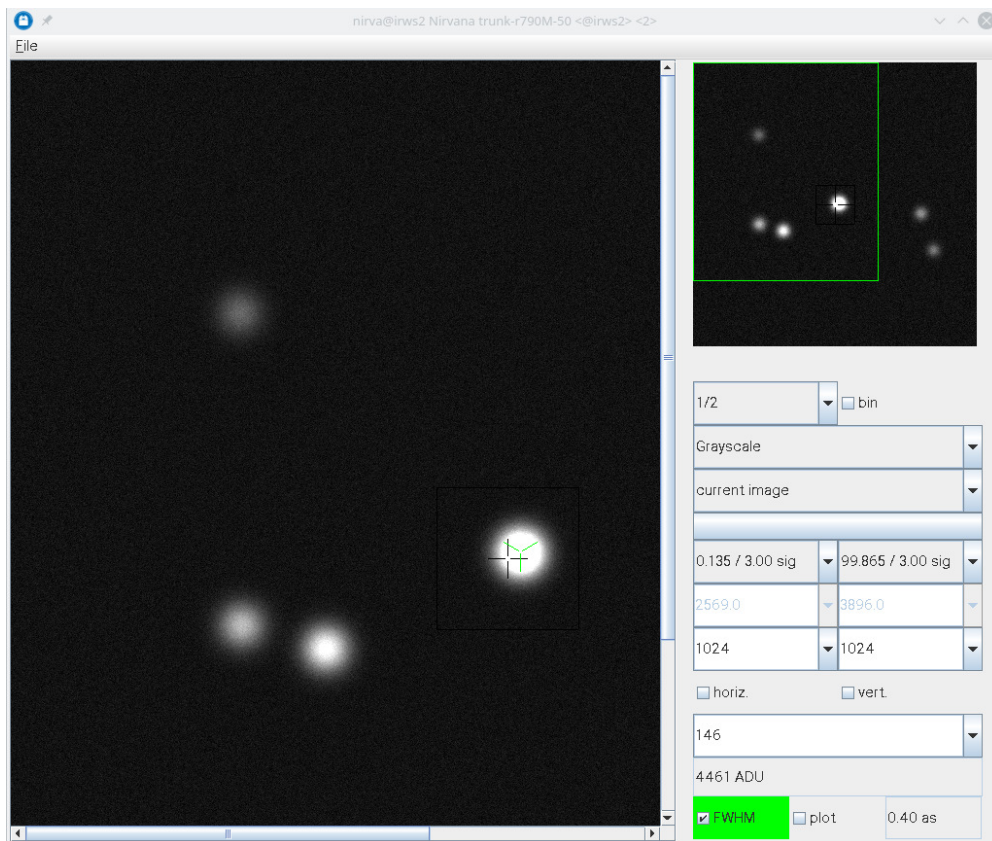

Figure 21: Current Exposure Display. Right after GEIRS startup this shows the white-on-blue logo of the MPIA.
**4.3.4.1 Introduction** The display tool, Figure 21 works similar to `ds9` or `fv` tools with some display options and similar statistics. The GEIRS display, however, is completely unaware of world coordinate systems standards. Some online data processing techniques are available. These interactive operations (magnifying, scrolling forward and backward through the frames, setting ADU cut levels, ...) affect only the displayed data but do not manipulate the raw data that have been or will be saved to disk.
to the `QueueFiles` shell script (Sec. 3.3). As an alternative to using the `type` command one may use the full path of `xpaset` or make sure by symbolic links that the `path` contains the executable. Note that `ds9` sometimes needs to read `ds9-64` depending on how this was compiled. With that setup, opening the GUI in Figure 21 may be superfluous.
The menu on the right hand side of Figure 21 has a number of fields, which are described from top to bottom in the subsequent paragraphs.